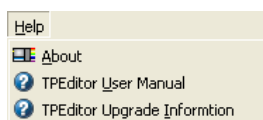

Figure 2-17 Menu bar—Help
- **Help:** It provides the information about the version of TPEditor, and TPEditor User Manual, as shown in Figure 2-17. Please refer to section 3.8 for more information.